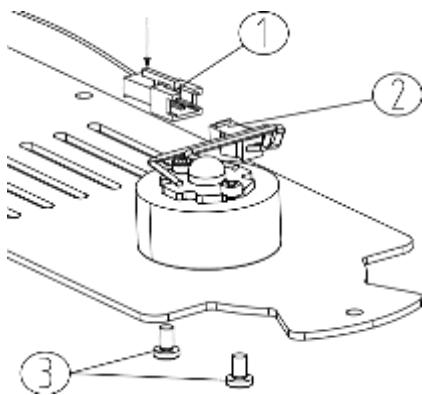

Fig.5
③ that fixed the LED, replace with a new LED group. Fix the LED group by the two screws, plug the connector ② into connector socket ①, assemble the bottom group to original place (See Fig.5).